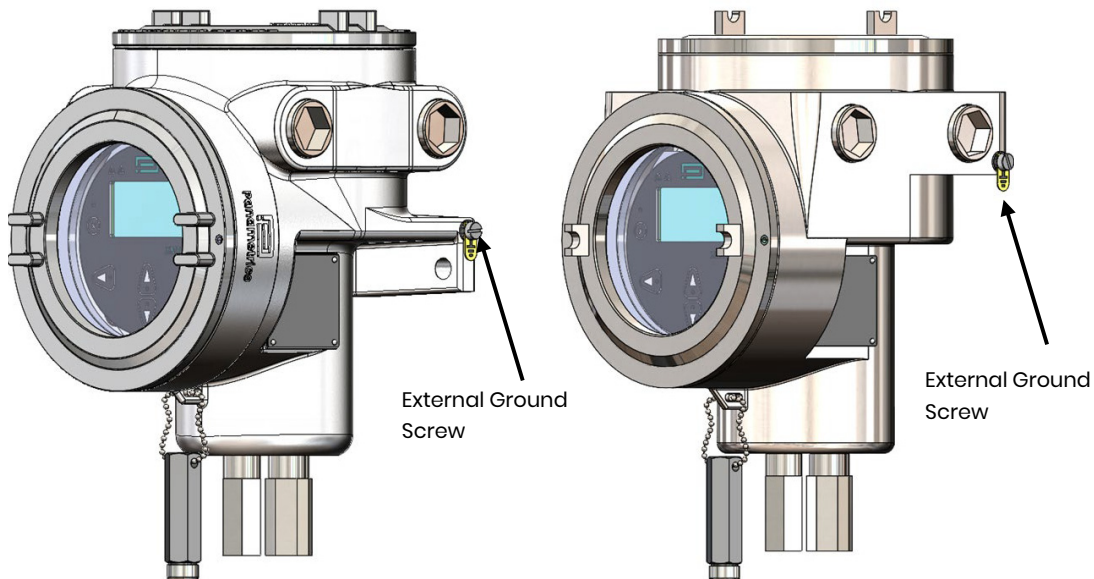
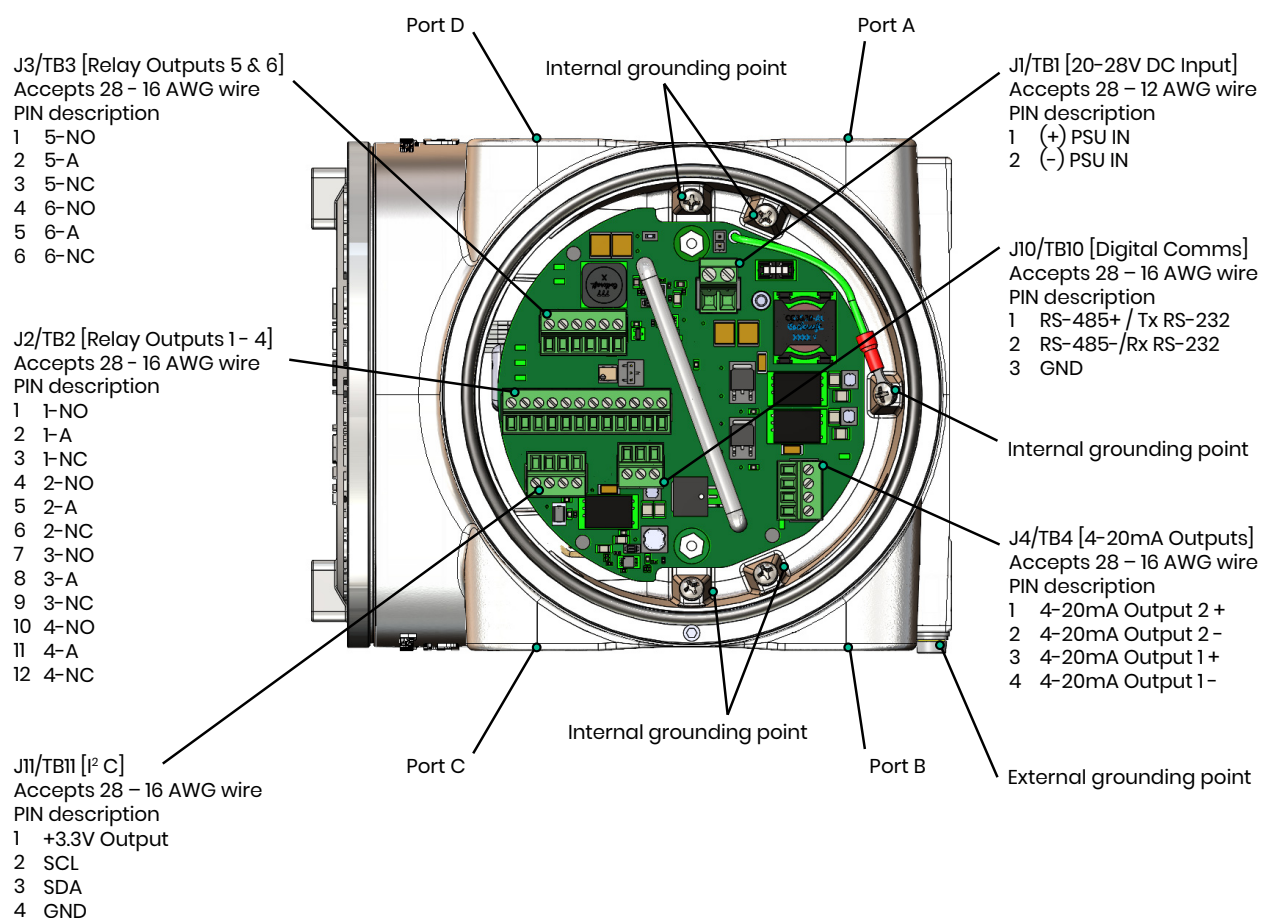

Figure 6: External ground screw locations for Aluminum and Stainless Steel versions of XMO2pro
Figure 7: Wiring Diagram
**WARNING!** The XMO2pro transmitter shall be properly grounded. Connect the external ground screw on the XMO2pro enclosure (see Figure 6 below) to a suitable earth grounding point.
Refer to *Figure 7* for port location and *Table 1* for PSU cable length requirements:
The 24 VDC power input, 4-20 mA analog outputs, relay outputs and digital comms outputs wiring connections are made to terminal blocks TB1, TB2, TB3, TB4, and TB10 inside the XMO2pro (see *Figure 6*). To access this terminal block, loosen the locking screw and remove the cover. Then, refer to *Figure 7* for the location and pin designations of terminal blocks TB1, TB2, TB3, TB4, and TB10.
4. Connect the appropriate leads per the wiring diagram in Figure 7.